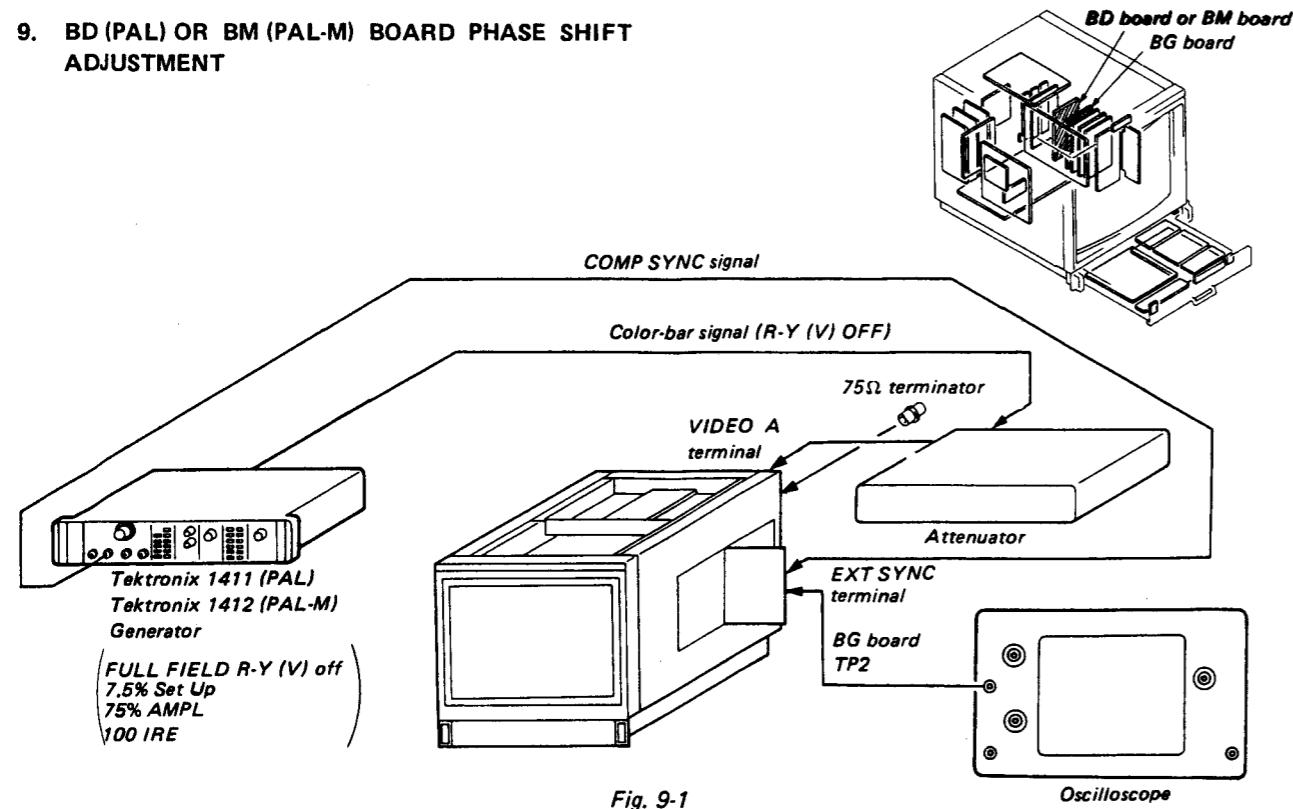

Fig. 9-1
- 1. Complete the connection as shown in Fig. 9-1.
- INPUT selector (FRONT PANEL (R)) ... A ()
- SYNC selector (FRONT PANEL (R)) ... EXT ()